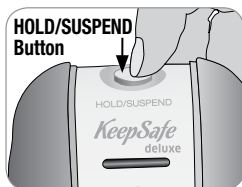
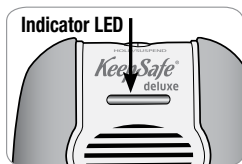

Fig. 8
Fig. 8a
1. Press HOLD/SUSPEND button on the top of alarm (Fig. 8) for 3 seconds. The monitoring indicator LED will begin flashing RED at ½-second intervals if the alarm is in SUSPEND mode (Fig. 8a).